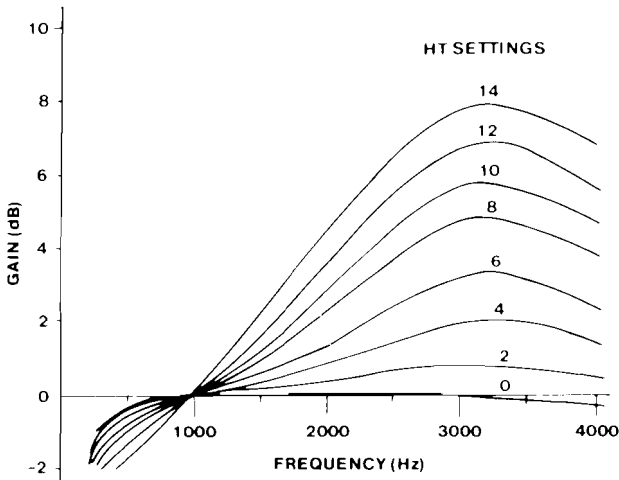
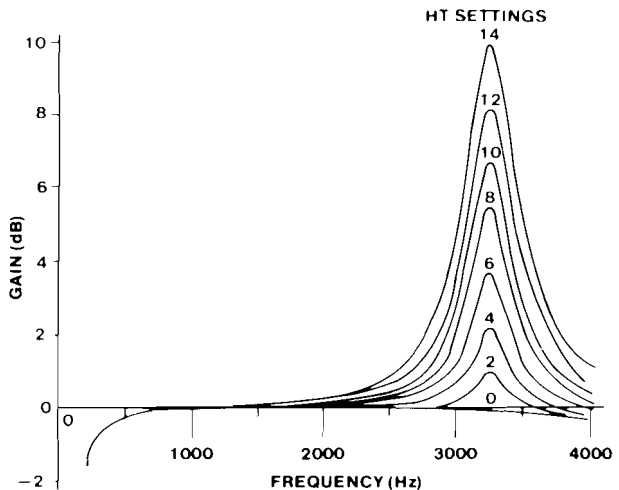

figure 7. Typical response curves for receive and transmit equalizers in bump mode, BW switch = 14
figure 8. Typical response curves for receive and transmit equalizers in bump mode, BW switch = 3
2.07 Figures 7 and 8 show typical response curves for the 309B-equivalent equalizer in the bump mode. Figure 7 shows the curves representing various height settings versus a wide bandwidth setting, while figure 8 shows the curves representing various height settings versus a narrow bandwidth setting. For comparison purposes, all frequency-response curves in both figures are